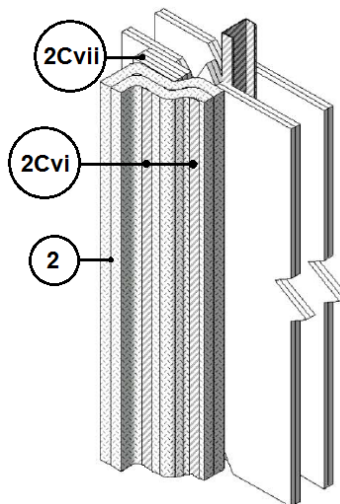

Figure 9. Wall Anchoring
- iv. Insulation Anchors: Floor/Ceiling Application – Use min. 16 GA, min. 1-1/2 in. wide steel sheet strips, and min. 1/4 in. diameter hex-head concrete anchors, spaced to match the longitudinal pin spacing shown in Figure 1. Position the floor/ceiling anchors nominal 4 in. from the outer surface of the duct insulation (Item 2). Extend the duct insulation min. 1-1/2 in. beyond the anchors. Reference Figure 9.
- vi. Gypsum Anchor Protection Boards: For installation onto steel stud and gypsum wall, use three layers of 6 in. wide, 5/8 in. Type X gypsum board strips, mounted onto the gypsum wall under the duct insulation (Item 2) and adjacent to the wall anchors (Item 2Cvi) as shown in Figure 9. For vertical application, attach the gypsum wall anchor boards with #10 drywall Type G laminating screws spaced 24 in. oc. For horizontal application, attach the gypsum anchor boards with #10 drywall Type S screws into steel studs. Secure the insulation blanket (Item 2) to the gypsum wall anchor board using wall anchors (Item 2Cvi) consisting of min. 16 GA, min. 1-1/2 in. wide steel sheet strips and #10 drywall Type G laminating screws, spaced to match the longitudinal pin spacing shown in Figure 1.